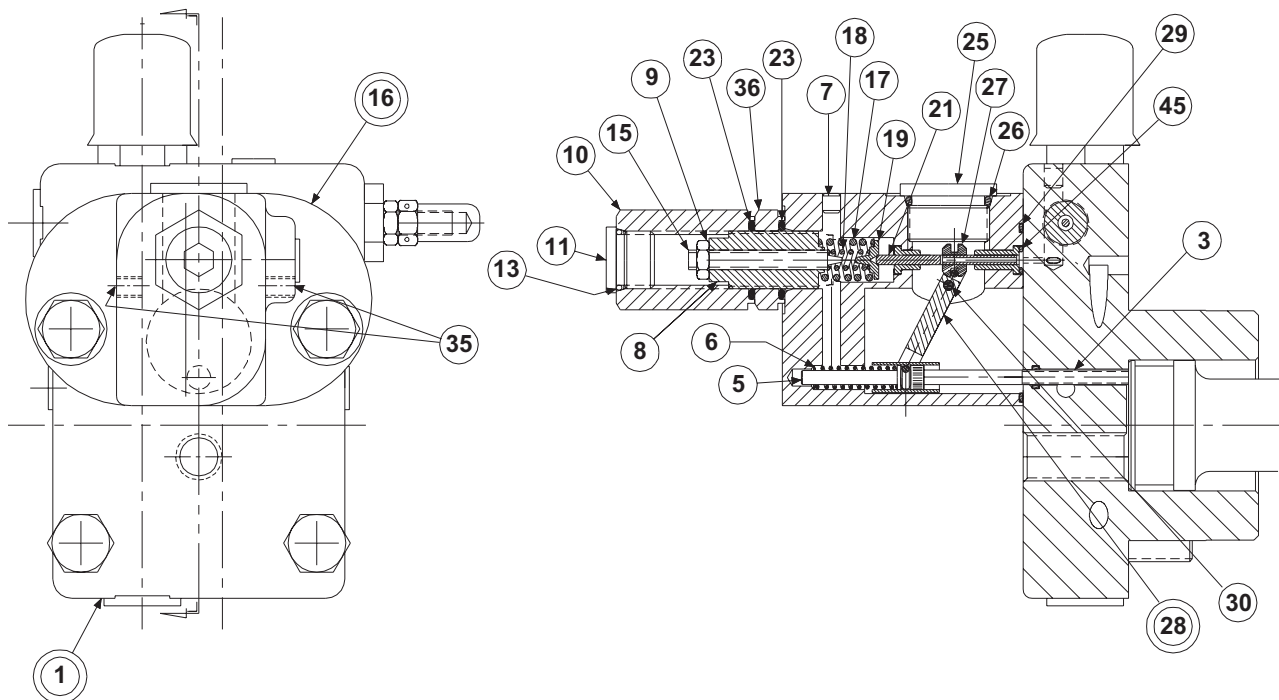

FIGURE 11
PARTS LIST FOR FIGURE 11
1. **See Figure 11.** Remove 2 screws holding torque limiter body (16) to cap assembly (1).
2. Remove all parts from torque limiter body (16) except pin (30) and arm assembly (28). It is not necessary to remove these parts unless broken or worn. Examine parts for wear or damage.
3. Remove screw (3). Examine head for excessive wear, and body for smooth sealing surface with O-ring.
5. Remove cap assembly (1).
2. Press seat (10) into bore squarely against shoulder in bore.
3. Install spool (18) into bore as shown. Install spring (11) over end of spool. Install O-ring (6) on seal piston (16). Lubricate and install into plug (15). Install plug (15) into cap. Install screw (3), nut (4) and acorn nut (17). Install plug (12), (21) and (28). Torque plugs.
4. Install O-ring (6) on seal piston (5). Lubricate O-ring and install cone (8), spring (7) and seal piston (5) into bore in cap (1), being careful that cone enters seat (10). Install adjusting plug (2), screw (25), nut (4) and acorn nut (26).
5. Carefully install O-ring (27) in the cap.
8. **See Figure 11.** Apply thread locking compound on threads of screw (3), lubricate the shank, thread through the cap into the control piston, and torque to 5 lb.*ft., 6,8 Nm
10. Press dowel (30) into body (16), through the link assembly (28), to 1/4", 6,35 mm below surface. Apply hydraulic sealant to threads of screws (35) and install over dowel (30).
11. While sleeve (27) is engaged into dowel on link (28), slide spool (21) into bore of body (16), and through sleeve (27). Spool (21) must move freely and easily at all positions of the link (28).
12. Assemble remaining parts per drawing. While spring retainer is engaging clevis pin (5) under dowel of link (28), slide the other opening of spring retainer over the top of the screw (3). Attach body assembly (16) to cap (1) and torque screws to 75 lb.*ft., 102 Nm.